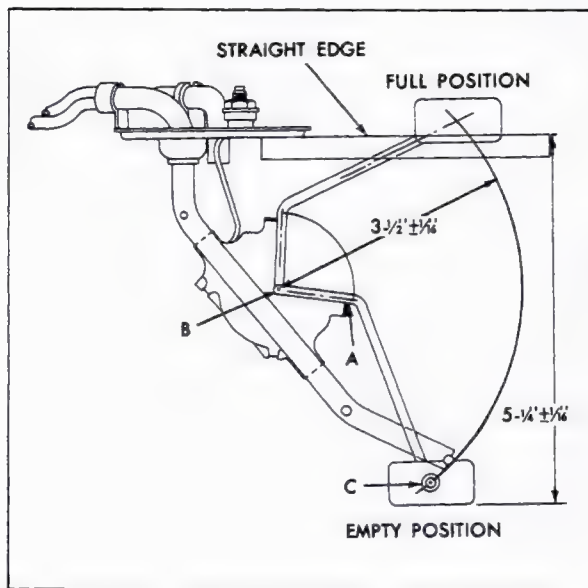
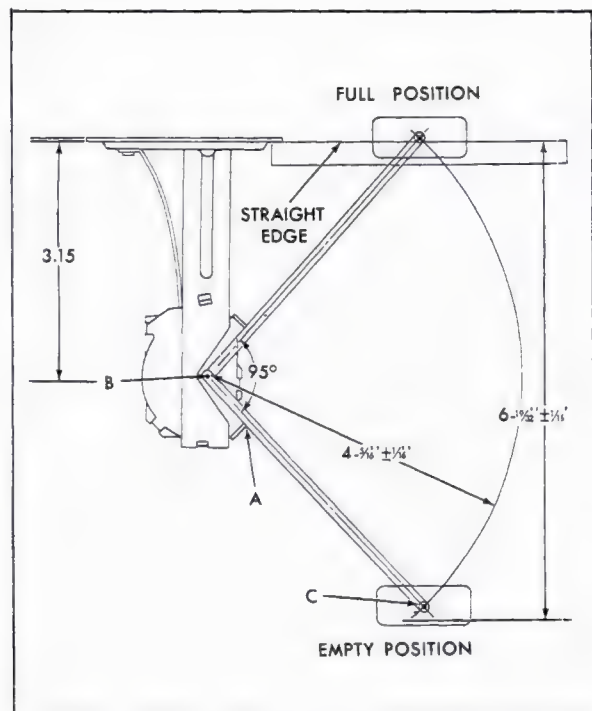

Fig. 12-29 Checking for Bent Float Arm (Exc. 693)
Fig. 12-30 Checking for Bent Float Arm (693)
1. Establish a fixed reference point when checking for a bent float arm by placing a straight edge as illustrated on surface of cover plate, extending it outward. See Fig. 12-29 for all but 693 style or Fig. 12-30 for 693 style.
"Empty" position against stop "A", distance from bottom of float (with float horizontal) to straight edge should be 5-1/4 inches \pm 1/16 inch, Fig. 12-29. Bend float arm as needed. Check distance from point "B" to "C" which should be 3-1/2 inches \pm 1/16 inch, Fig. 12-29. Bend float arm as needed and recheck distance from bottom of float to straight edge.
3. On 693 style, with float arm in "Empty" position against stop "A", distance from bottom of float to straight edge should be 6-19/32 inches \pm 1/16 inch, Fig. 12-30. Bend float arm as needed. Check distance from point "B" to "C" which should be 4-5/16 inches \pm 1/16 inch, Fig. 12-30. Bend float arm as needed and recheck distance from bottom of float to straight edge.